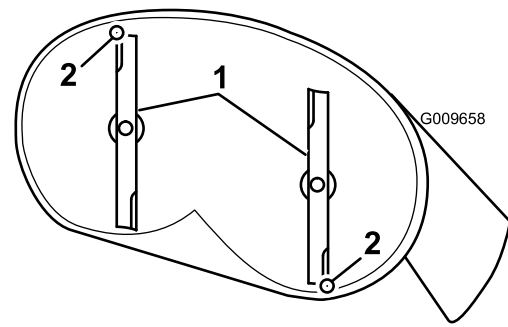
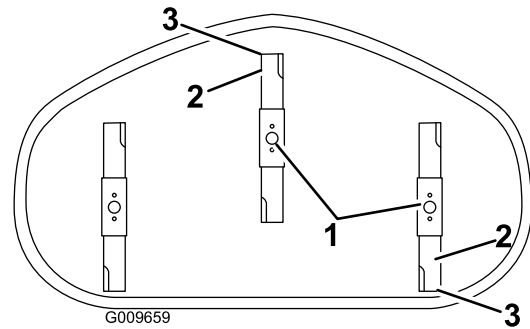

Figure 54
Figure 55
4. Carefully rotate the blades so they are facing front to rear (Figure 54 and Figure 55).
5. Measure from the tip of the front blade to the flat surface and the tip of the rear blade to the flat surface (Figure 54 and Figure 55). If the front blade tip is not 1/16-5/16 inch (1.6-7.9 mm) lower than the rear blade tip, adjust the front locknut.
8. After adjustment, check the front-to-rear slope again. Continue adjusting the nut until the front blade tip is 1/16-5/16 inch (1.6-7.9 mm) lower than the rear blade tip (Figure 54 and Figure 55).